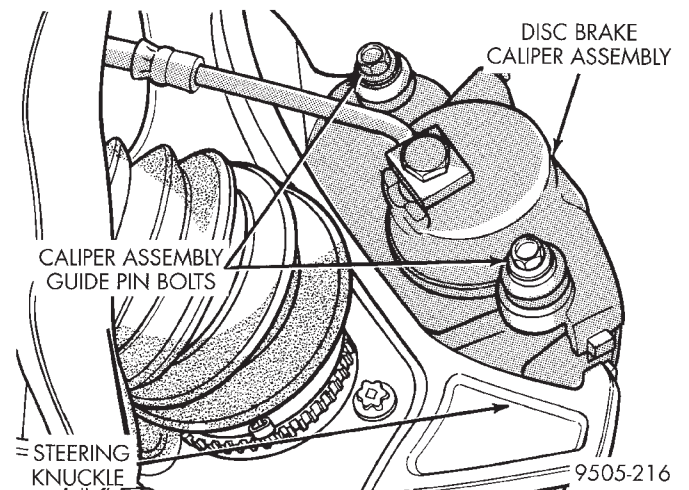

Fig. 22 Disc Brake Caliper Bolts
(12) Install caliper assembly to steering knuckle guide pin bolts (Fig. 22). Tighten caliper assembly bolts to 31 N·m (23 ft. lbs.).